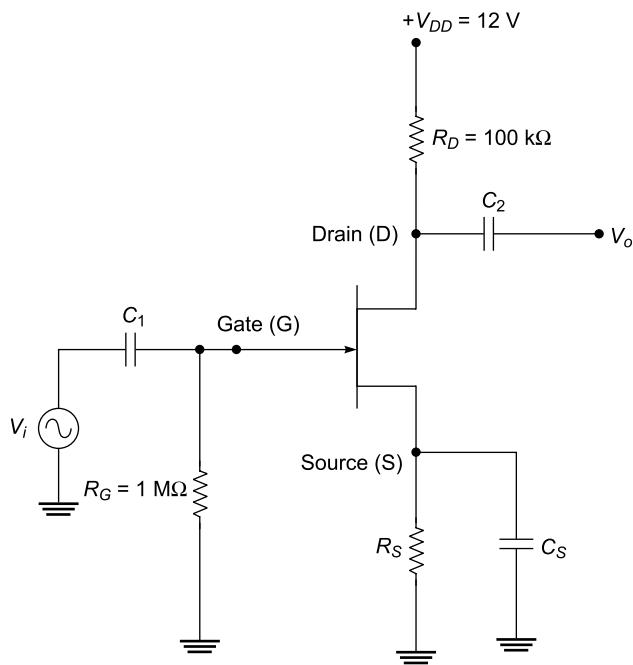

Fig. 1.81
1.14 Figure 1.81 shows a common source JFET amplifier circuit. Determine the value of voltage gain of the amplifier, input resistance and output resistance. Assume r_d is $100 \text{ k}\Omega$ and $g_m = 2 \text{ mA/V}$.